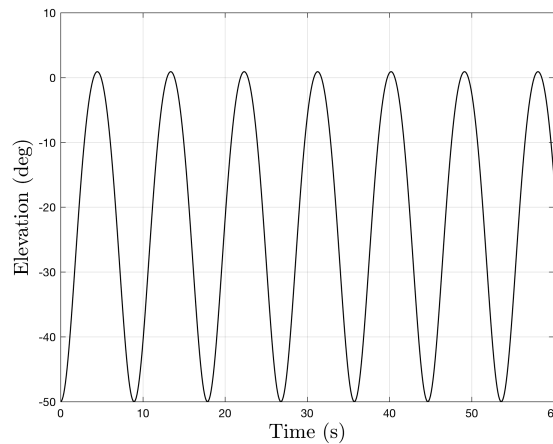

Figure 2: Typical open-loop elevation response of the simulated helicopter with both input voltages set to  $U_e$ .
- Define a small value for the equilibrium control voltage, say  $U_e=2$ . Modify your SIMULINK block diagram `OpenLoopSys.mdl` so that the input to both power amplifiers is  $U_e$ . Simulate the open-loop response of the helicopter and study the response about the elevation axis. You should notice that the helicopter has failed to gain any elevation. Increase  $U_e$  until the value where any subsequent increase causes the helicopter to saturate at its upper elevation limit. At this value of  $U_e$ , the simulated helicopter should display an oscillatory response about the elevation axis, similar to that shown in Figure 2. Make a note of this voltage. Note that this is not quite how  $U_e$  is defined in the notes. Owing to the dynamics of the model it is not possible to find a value of  $U_e$  that makes the simulated helicopter achieve a stable, hovering position, but this value will be close enough for you to assume they are the same.